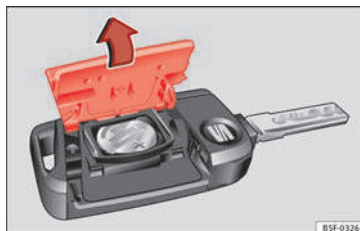

Fig. 116 Vehicle key: opening the battery compartment.
- Remove the cover from the back of the vehicle key **Fig. 116** in the direction of the arrow **Fig. 116.**
- Fit the cover as shown **Fig. 116**, pressing it onto the vehicle key casing in the opposite direction to that shown by the arrow until it clicks into place.